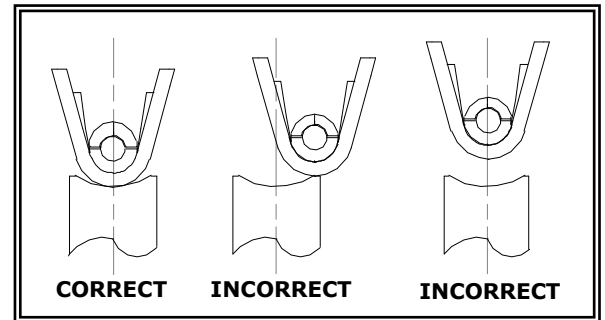

Figure 5
4. With hand pressure, slowly slide the locator to the correct position. See Figure 5.